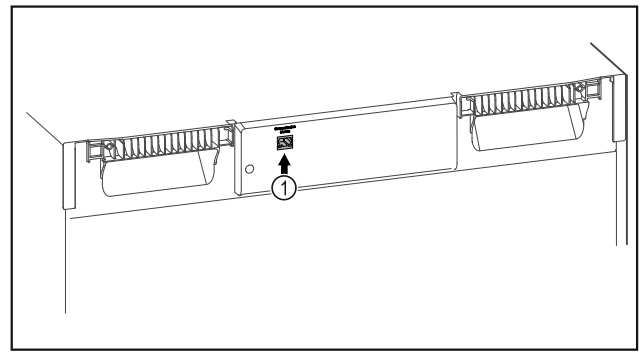

Fig. 82
- SmartModule Fig. 82 (1) is in use.